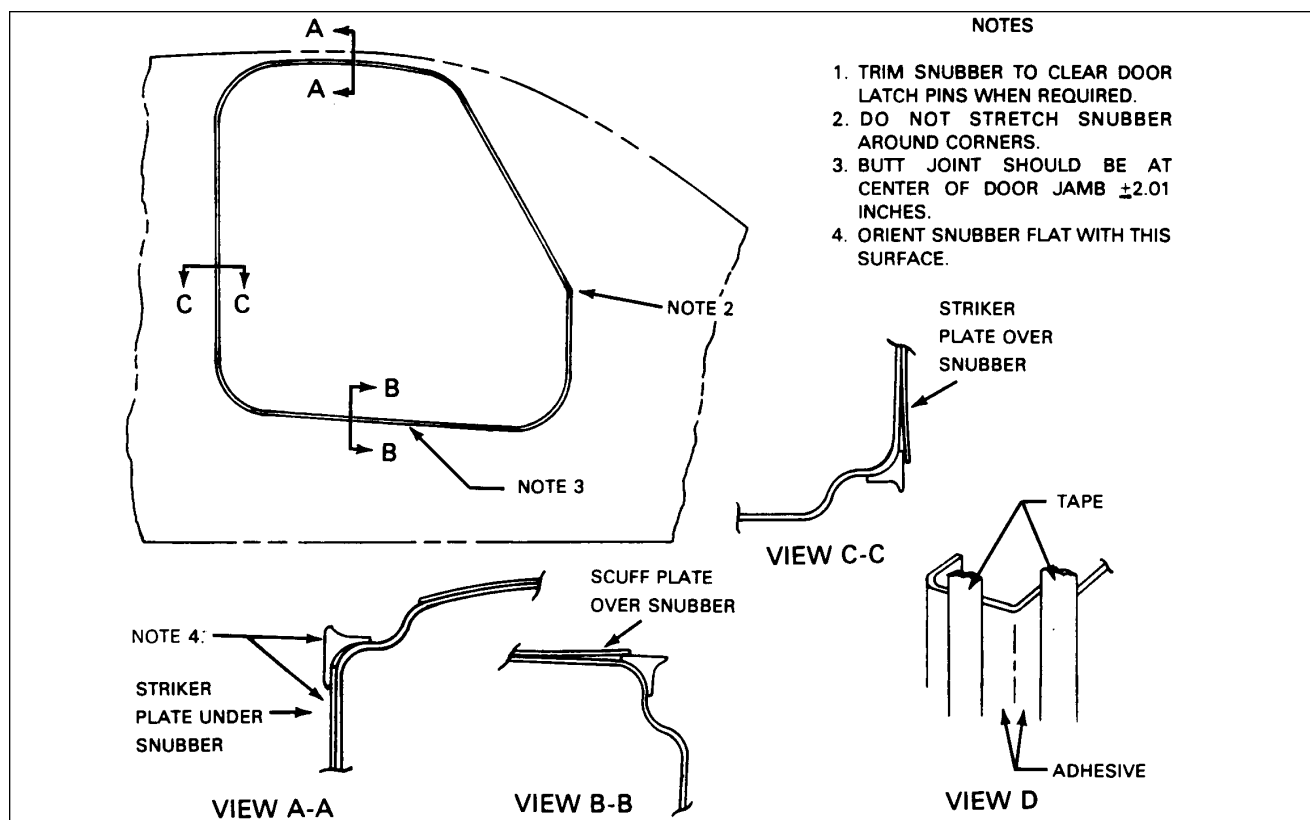

Figure 4-7a. Door Seal Snubber Installation
- d. Remove the striker plate. (Refer to Figure 4-7a.)
2. To effect a clean installation it is recommended that the door jamb is masked off with tape as shown in Figure 4-7a, View D.
3. Apply adhesive to the door jamb with a small brush on the area indicated in Figure 4-7a, View D.